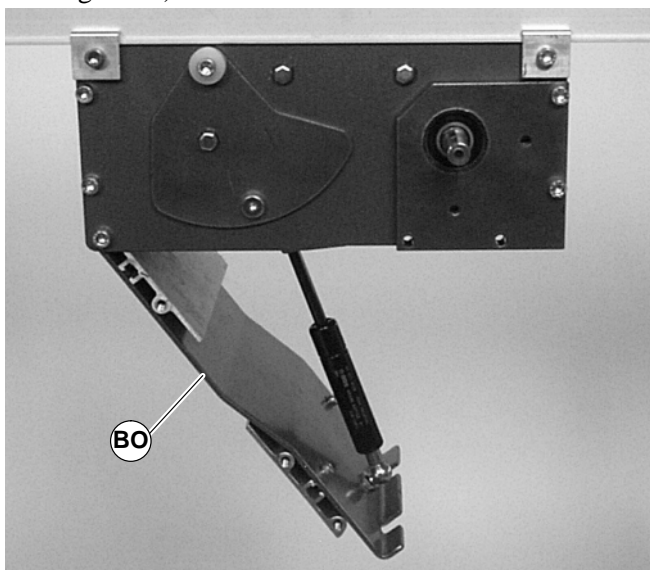

Figure 34
9. Carefully close the drive module tension door (BO of Figure 34). See **WARNING**.